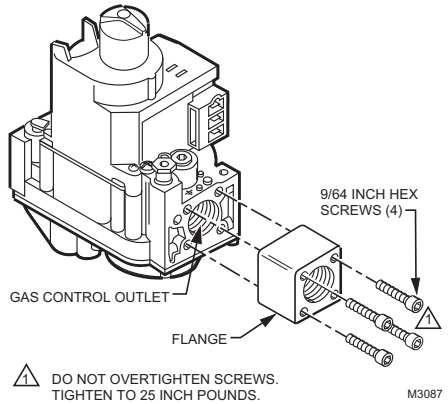

Fig. 1. Install flange to gas control.
4. With O-ring facing gas control, align the screw holes on the gas control with the holes in the flange. Insert and tighten the screws provided with the flange. See Fig. 1. Tighten the screws to 25 inch pounds of torque to provide a gas-tight seal.